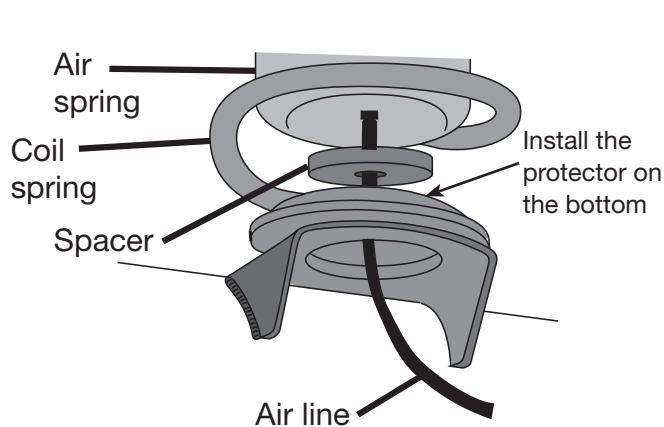

Fig. 10
5. If used, insert the spacer at the top or bottom. This spacer or protector may have to be installed on the air line side of the cylinder, depending on the air spring for this application. (Figs. 10 and 11)